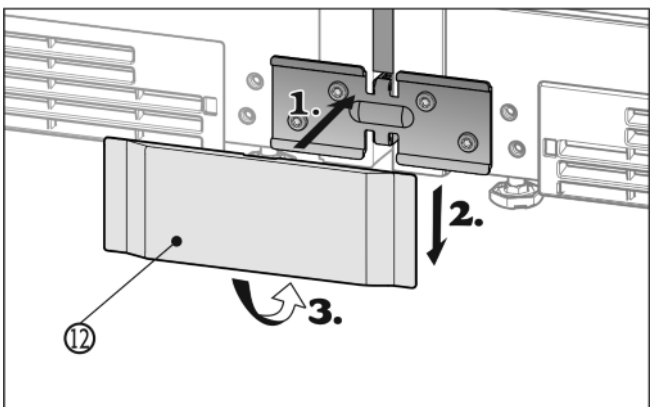

Fig. 16
- ▶ Place the bottom cover Fig. 16 (12) onto the bracket from the front (1), slide it down (2) and snap it in at the bottom (3).